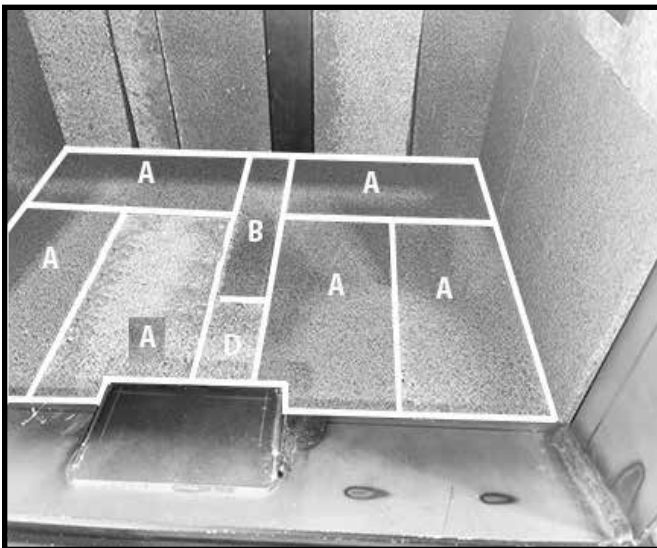

Figure 32: Final A and D bricks in place.
8. Finish by placing two "A" bricks on the right side of the firebox floor followed by the remaining "D" brick placed in the center of the firebox in front of the "B" brick. (Figure 32)